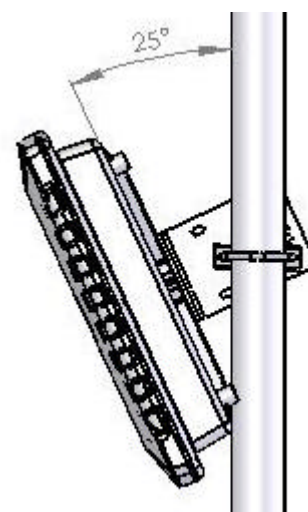

Figure 9. Setting tilt angle
- The Econo-bracket can be mounted through different holes to achieve the desired tilt angle of the antenna. (see figure 9).